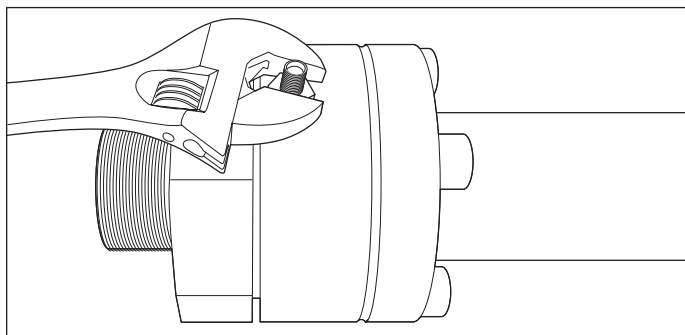

Figure 21-7
6. Install and tighten male Schrader valve adapter into the DoubleTrac® end fitting (Figure 21-7).